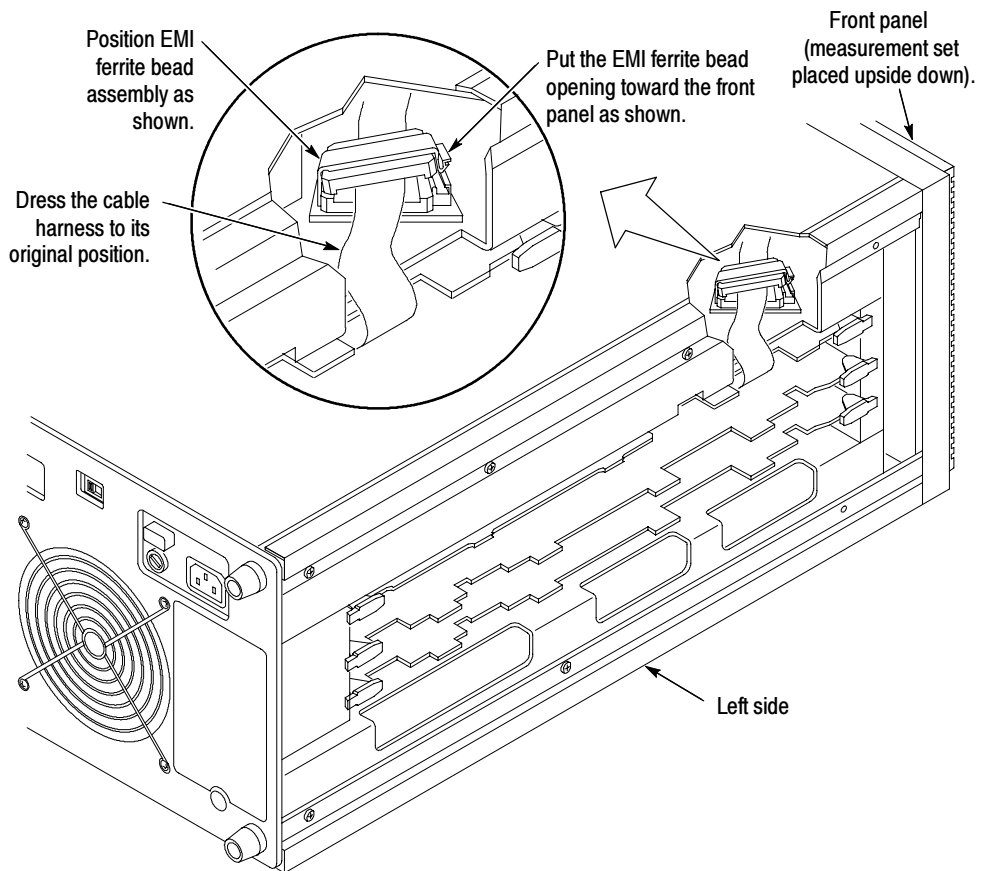

Figure 9: Clamp-on ferrite bead position (not for 119-4258-XX power supplies)
2. Slip the ribbon cable into the clamp-on ferrite bead and position the opening to face outward at an angle on the chassis panel as shown in Figure 9.